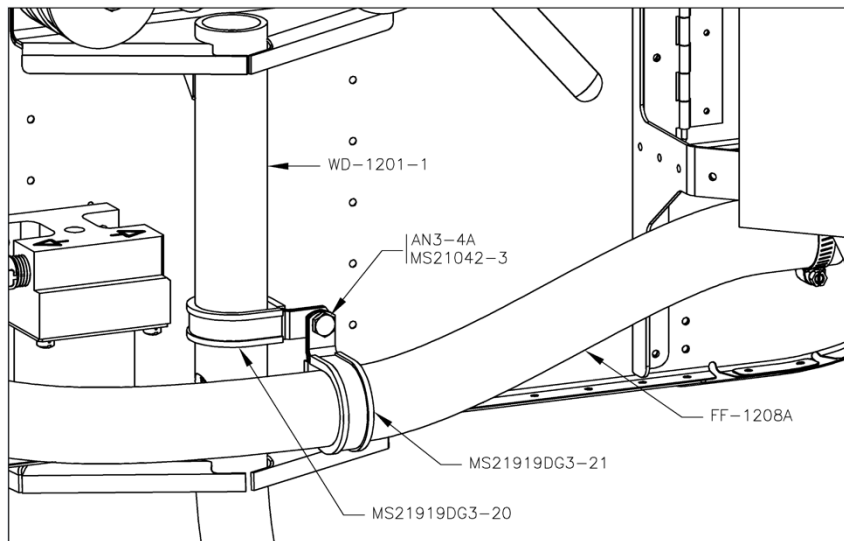

FIGURE 3: SECURING THE FF-1208A RADIATOR HOSE (RV-12 ONLY)
Step 22 (RV-12 Only): Secure the FF-1208A Radiator Hose to the front of the nose gear leg using the hardware shown in Figure 3.